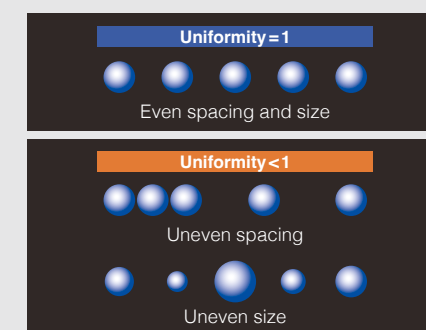

Fig. 2. Ideal Uniformity vs 2 Possible States of Low Uniformity
- Uniformity increases:** High uniformity means that the CNT is closer to even spacing and size (see Fig. 2).